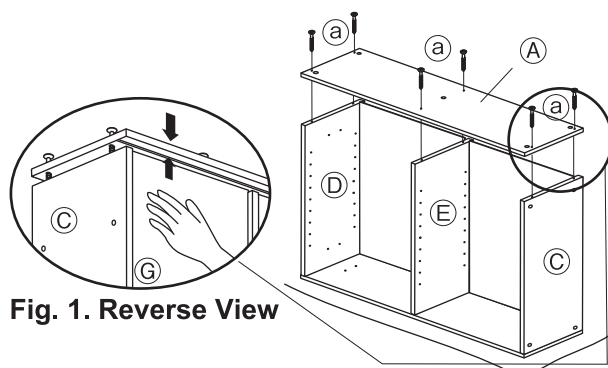

Fig. 1. Reverse View
Do not fully tighten the wooden screws at this time. Leave those on ① side panel: long slightly loose and adjust so that all back panels are inserted in the grooves of the side panels as shown in Fig. 1. Then firmly tighten the wooden screws after checking that all back panels are inserted in the grooves of the side panels.